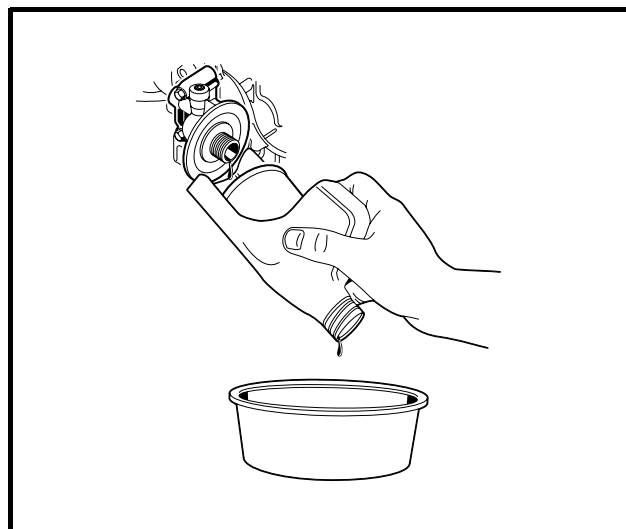

Figure 29 Remove Engine Oil Filter
9. Remove the engine oil filter, turning it counterclockwise, allowing the residual oil in the filter port and filter to drain into the oil drain pan (**Figure 29, Page 46**). See following **NOTE**.